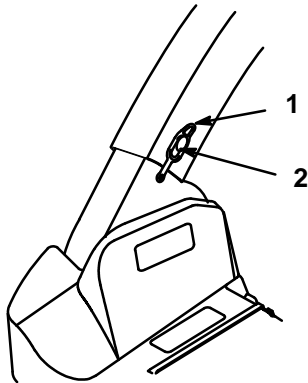

Figure 23
1. Unhook the rubber latch onto the knob (Fig. 23).
2. Slide the lower end of the discharge tube off the blower discharge opening (Fig. 23). Pull the upper end of the discharge tube out of the bagger top.